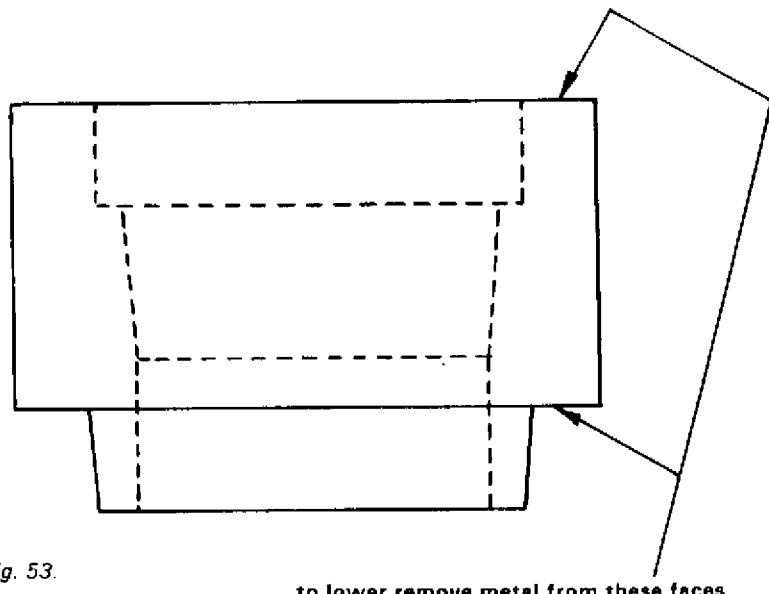

Fig. 53.
S.A.H. has a rate of 380 lb. per inch and a free length of 9.2" which means it is suitable as a straight swap on the earlier TR4. To use the competition springs on the later models we have to reintroduce the aluminium packing piece. If the competition springs are used, additional lowering can be achieved by machining the aluminium packing piece. These can be machined top and bottom to achieve the desired ride height (see Fig. 53). The amount to be taken off the blocks is not in direct proportion to the amount of lowering. The ratio between metal removed from the blocks to the change in ride height is about 5/8:1 i.e. 5/8" off the blocks will lower the ride height by about 1". When refitting the blocks do not refit the top rubber packing piece. If the ride height needs to be increased as would be the case for rallying, then this can be simply accomplished. On the early models, with the packing piece, fit the later long spring. On the later models, with the long spring, fit the packing piece. In each case this will raise the ride height of the front by about 1 3/4 - 2" If this is too much, then the packing pieces can be machined to make the necessary adjustments. If the S.A.H. competition spring is used which is 9.2" long, shorter than either standard spring, then the ride height must be adjusted by fitting an additional packing pie - That is, two packing pieces will be needed at the top of each spring , the standard one plus one to make up for the shorter length of spring.